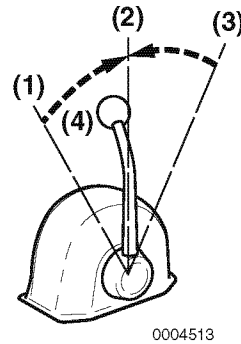

Figure 3
Use the throttle handle (**Figure 3, (4)**) to control acceleration and deceleration. Move the handle slowly.
2. When moving the handle between FORWARD (**Figure 3, (1 or 3)**) and REVERSE (**Figure 3, (3 or 1)**), bring the handle to NEUTRAL (**Figure 3, (2)**) and pause before slowly shifting to the desired position. Never shift abruptly from FORWARD to REVERSE or vice versa.